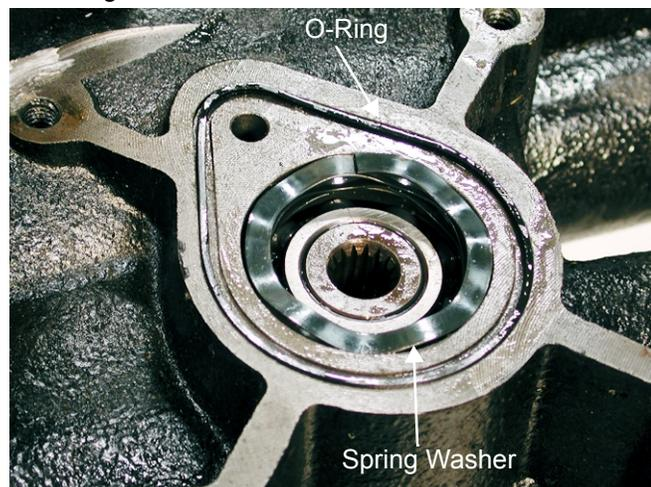

Figure 10
13. Remove the spring washer and the gland seal o-ring from the right transmission housing. See Figure 10.